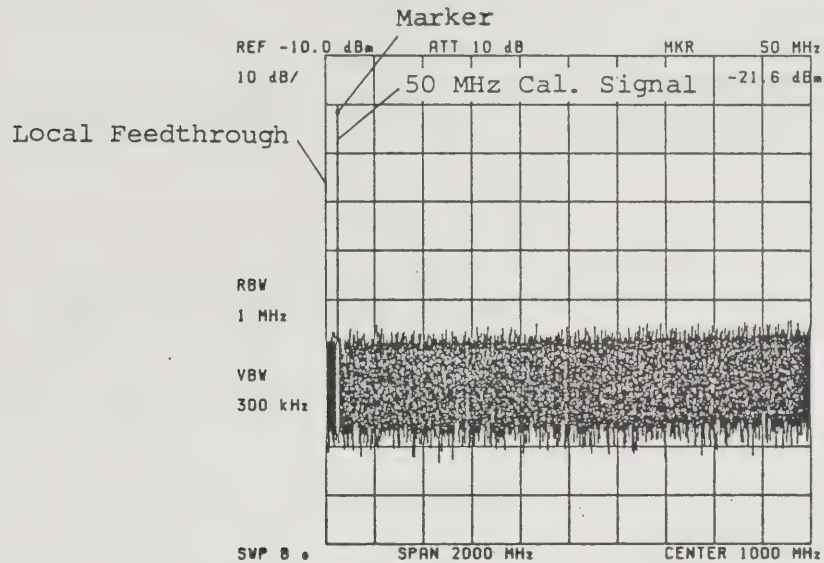

Fig. 11-44 YTO main span adjustment (2)
- (b) Adjust R59 on the YIG Oscillator Driver board until each response of the 1 MHz comb signal is positioned at each vertical graticule on the screen. (See Figure 11-44.) The signal response on the screen can be shifted horizontally by pressing CENT. FREQ. key and then using the DATA knob.